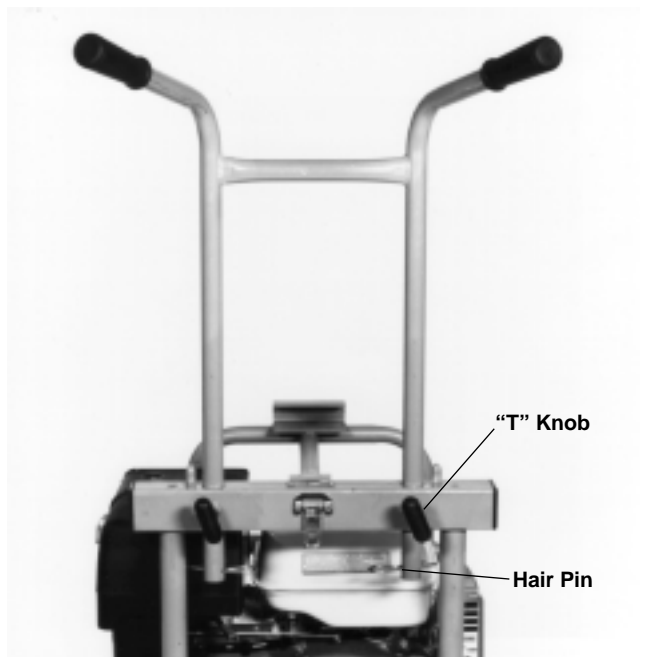

Figure 1 – Handle Assembly
1. Insert the handle through the two holes in the rear cross bar of the unit (*Figure 1*).